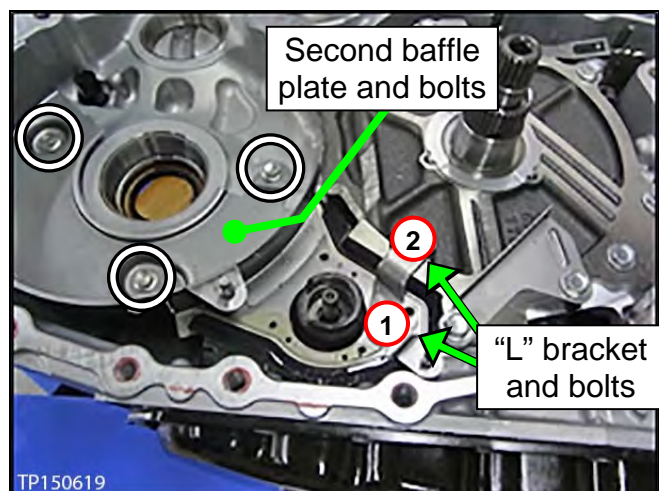

Figure 67
9. Install the second baffle plate and "L" bracket with related bolts finger tight (see Figure 67).